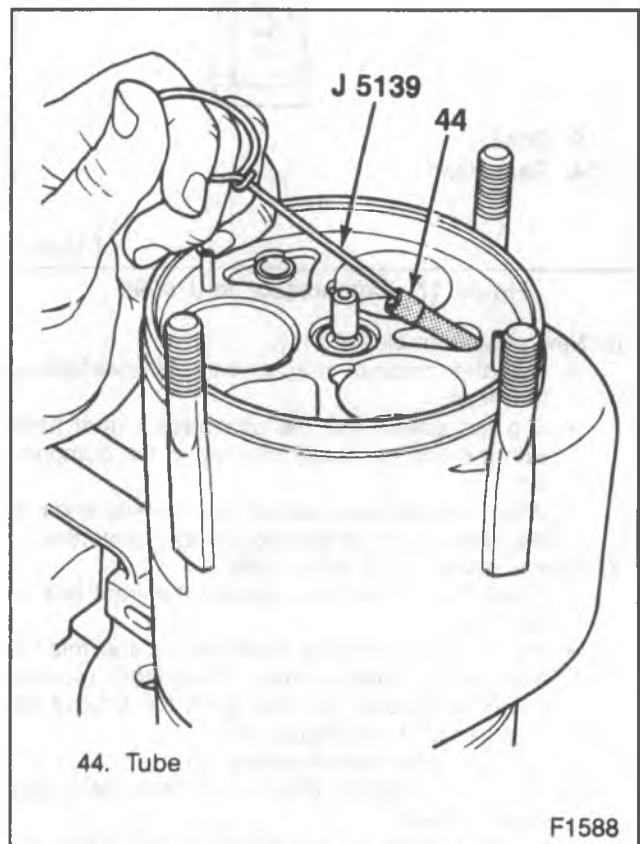

Figure 21—Removing the Rear Suction Reed Plate
8. Oil pick-up tube (37) with J 5139 (figure 21).